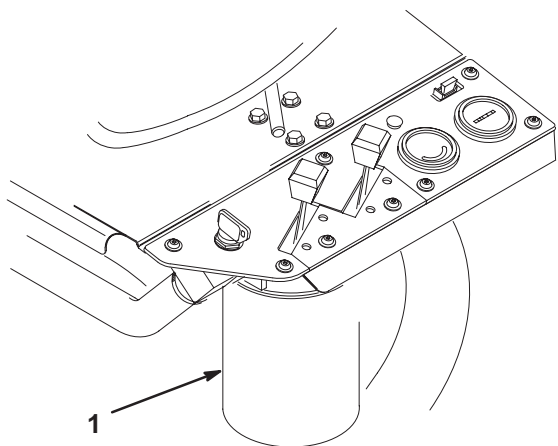

Figure 41
2. Clean the area around the filter mounting area (Fig. 41). Place a drain pan under the filter and remove the filter.